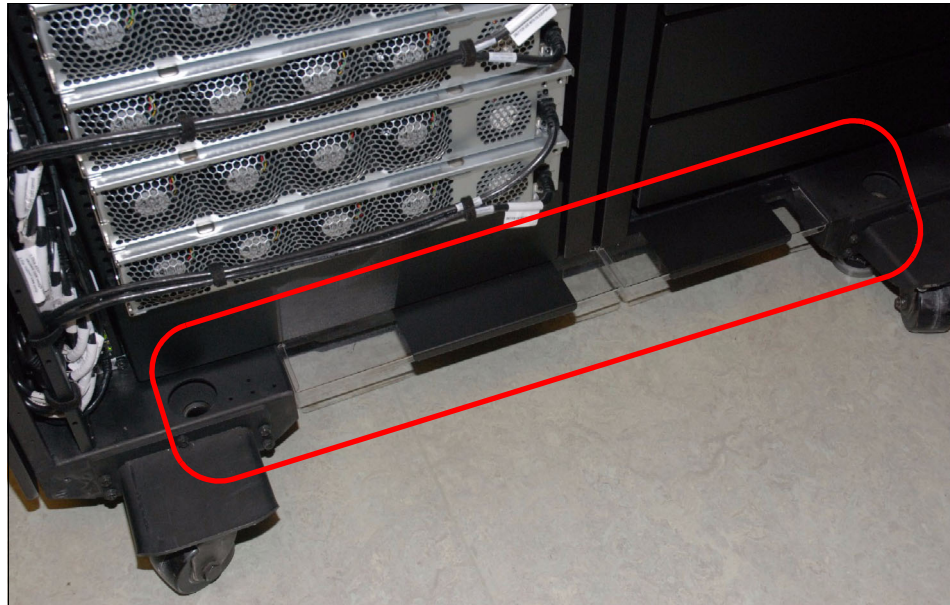

Figure 5-6 Air baffle “mud flap” installed to prevent hot air escaping
Part of the Rear Door Heat eXchanger are two air baffles that prevent air recirculation. They are installed at the top and at the bottom of the rack and prevent hot air from bypassing the heat exchanger through gaps introduced by cables to external systems (the air baffles are sometimes referred to as *mud flaps*). See Figure 5-6.
- ▶ If cables are required to exit at the rear of the rack cabinet, make sure they enter or exit through the bottom and top air baffles (see Figure 5-6 on page 140). Bundle the cables together to minimize air gaps, taking care to avoid cable groupings that can lead to interference such as crosstalk. Make sure that the air-baffle sliders are closed as far as possible. See 5.1.4, “iDataPlex cooling options” on page 140.